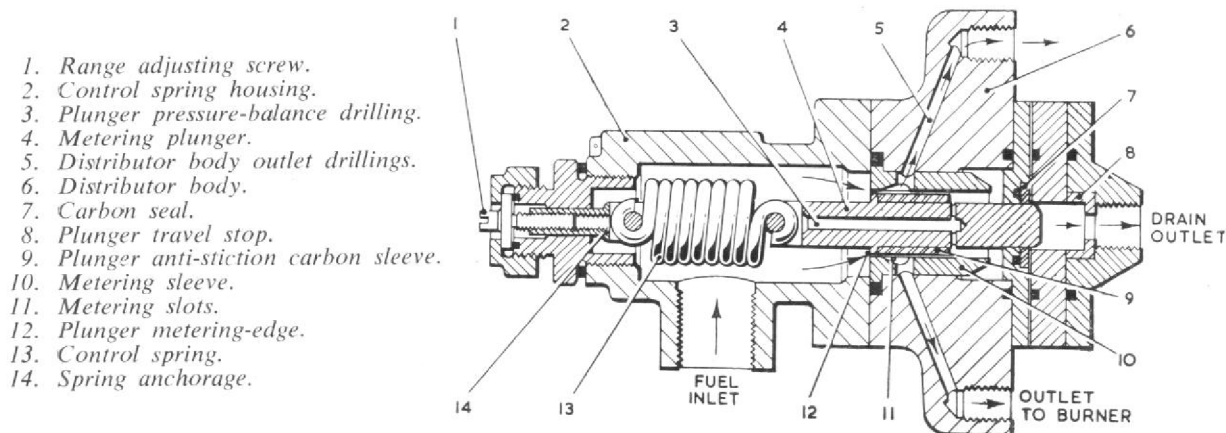

Fig. 3. Schematic diagram of flow distributor.
The distributor, see Fig. 3, consists essentially of a spring-loaded steel plunger (4) operating in a closely-fitting cylindrical metering sleeve (10) in the body casting (6). A carbon sleeve (9) is cemented to the plunger to reduce 'stiction' and minimise hysteresis; the carbon portion extends almost to the upstream end of the plunger, the extremity of which forms the metering edge (12), controlling the flow to the burners.
With the engine stationary the metering plunger is at the bottom of its stroke and the metering slots are completely blanked off (refer to Fig. 3). When the engine is started, fuel is fed into the flow distributor body casting and when the pressure is built up to a sufficient pressure (of the order of 100 lb. per sq. in.) the metering plunger moves to uncover the metering slots, thereby allowing fuel to be passed to each individual burner via the radial drillings.